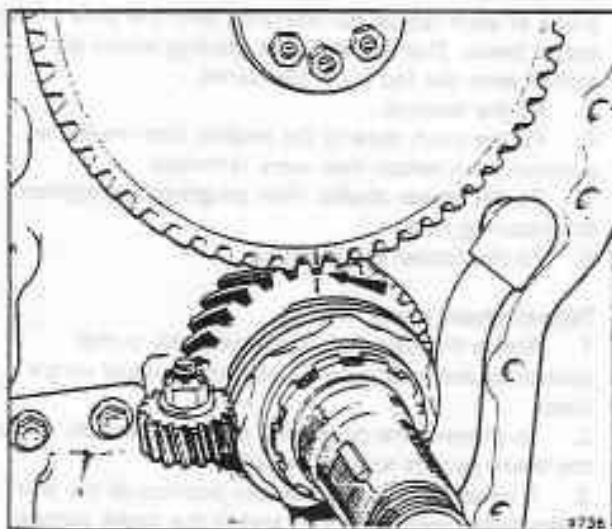

Fig. E7-8 Valve timing marks
Valve gear - To time (see fig. E7-8)
1. Fit a dial test indicator to the crankcase and position the indicator onto the timing gear as shown in figure E7-8; set the scale to zero.
2. Rotate the crankshaft until the timing marks on the camshaft and crankshaft gears are in line (see fig. E7-8).
the camshaft and crankshaft gears are aligned (see fig. E7-8).